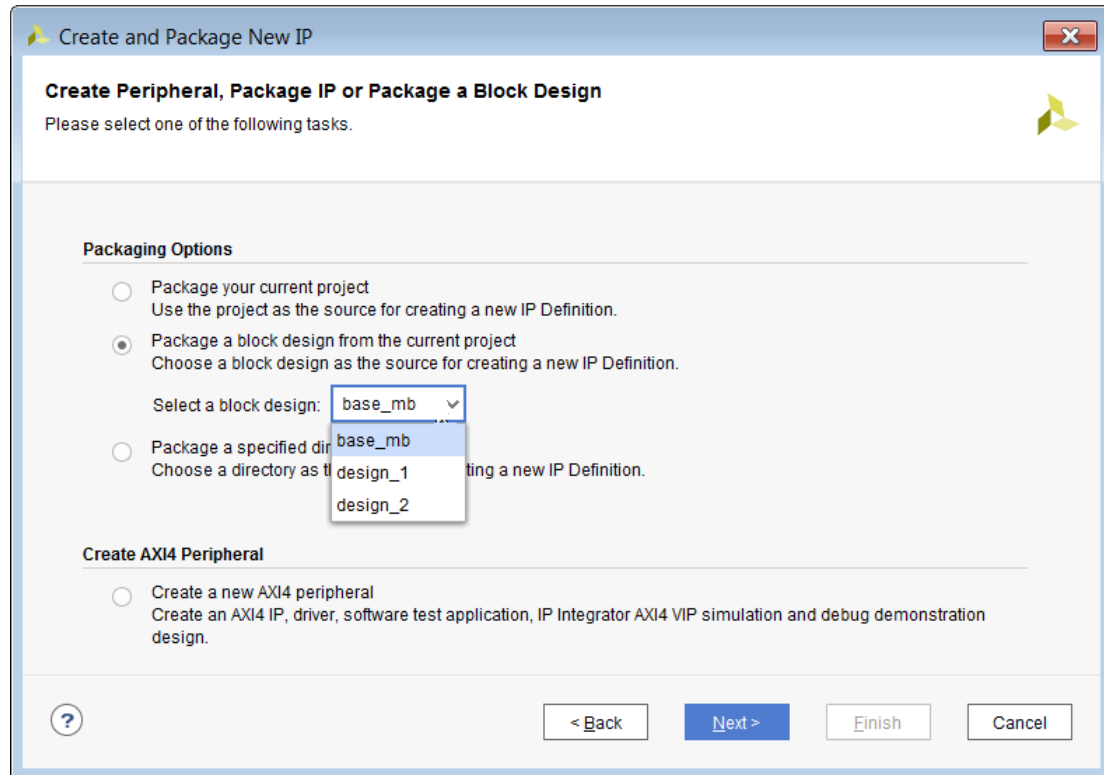

Figure 3-5: Package a Block Design from the Current Project
1. The **Package a block design from the current project** option lets you package the files associated with a block design (BD) in your current project, as shown in Figure 3-5.